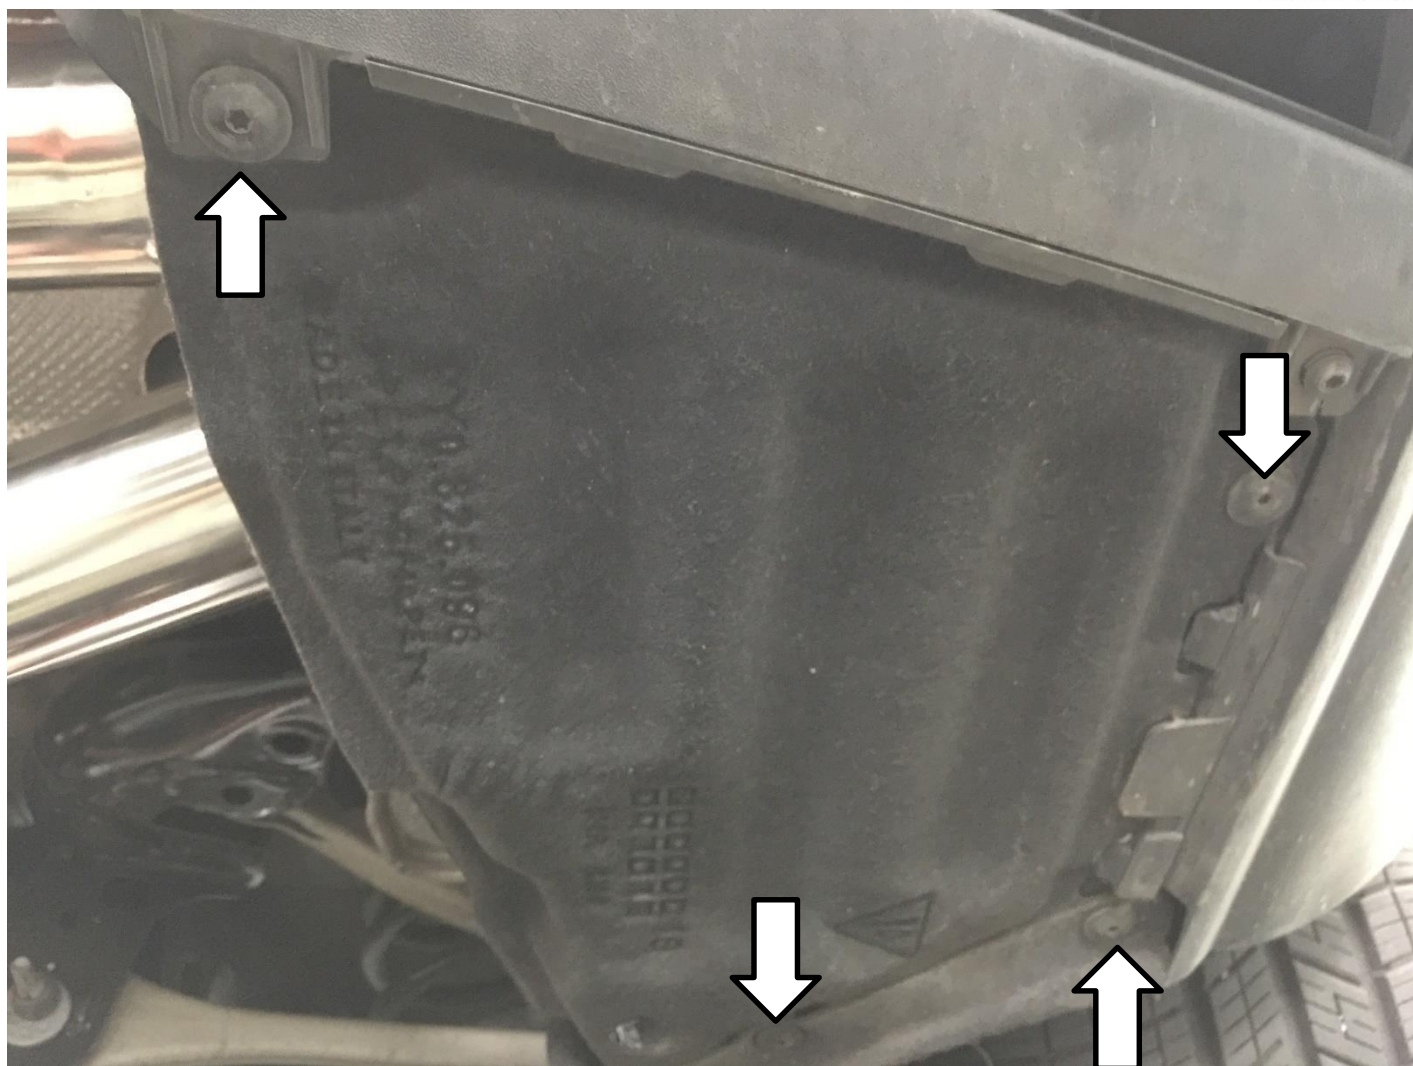

Fig. 4
4. Remove the lower guard under tips.(Fig.4)